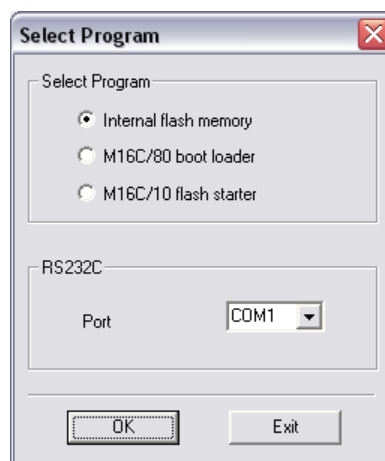

Figure 25-1 – FlashStart start screen
3. Power up the QE90. Run the FlashStart application by double clicking the file FlashStart.exe. When the application window (Figure 25-1) appears, select the "Internal flash memory" radio button at the top, and select the COM port you are using from the list box at the bottom. Click OK.